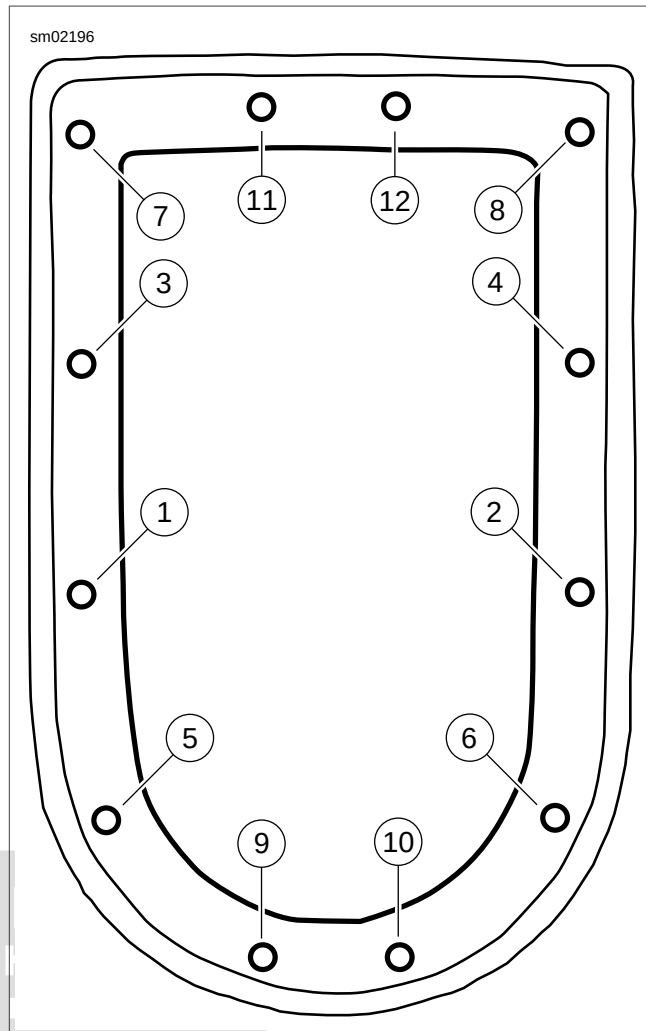

Figure 7-55. Top Plate Torque Sequence (Typical)
7. **All but FXD:** see Figure 7-55. Tighten sealing fasteners using pattern shown to 27-33 **in-lbs** (3.1-3.7 Nm).
8. **FXD only:** see Figure 7-55. Tighten sealing fasteners using pattern shown to 15-21 **in-lbs** (1.7-2.4 Nm).